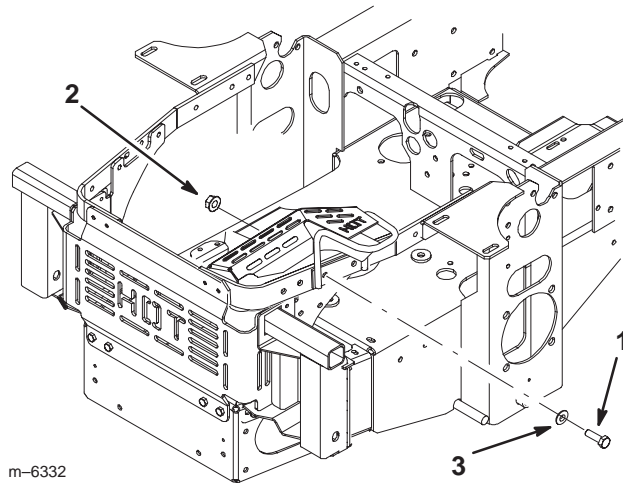

Figure 8
3. Install the muffler heat shield to the right engine strap with one existing bolt, flat washer and flange nut (Fig. 8).